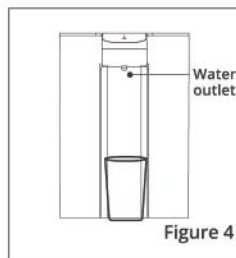

Figure 4
- Put a container or a cup under the water outlet, activate the screen by clicking the water dispensing key "Δ", and click it again to dispense water. (Figure 4)